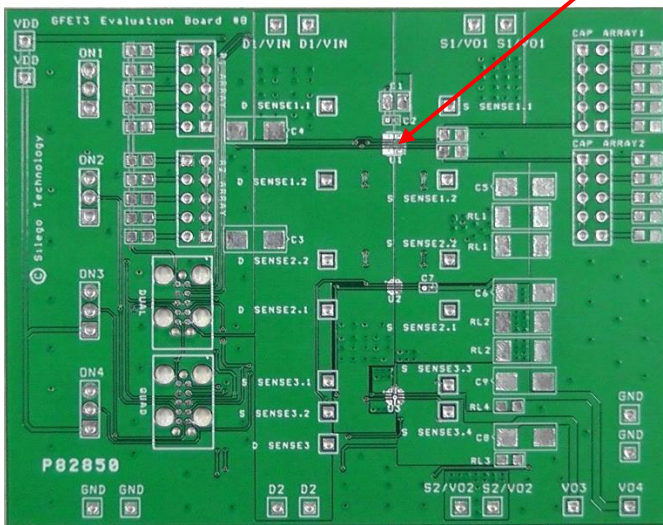

Figure 3. SLG59M1804V Evaluation Test Board
2.3. The D and S pins carry significant current. Please note how the D and S pads are placed directly on the power planes in Figure 3, which minimizes the RDS(ON) associated with long, narrow traces. The D and S pins dissipate most of the heat generated during high-load current condition. The layout shown in Figure 3 is illustrating a proper solution for heat to transfer as efficiently as possible out of the device.